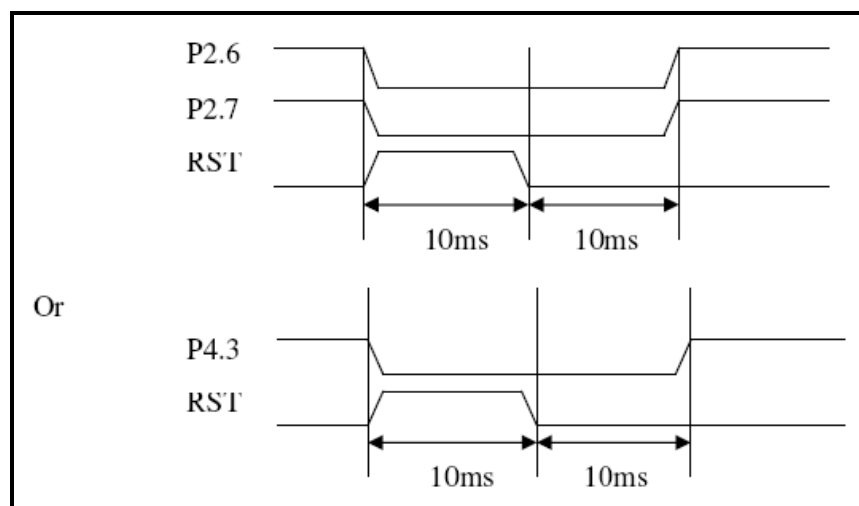

Fig 9-1 : ISP entering by hardware setting
- (1) Blank first data : If the first Flash data is blank (data in address 0000h is FFh), the controller will read it after power on and after identifying it as blank, the program counter will go to the ISP code area.
- (2) Execute the “LJMP” instruction in the program as IAP function.
- (3) By hardware setting: After power on reset, if the hardware finds both Port2[6] and Port2[7] are tied low, or Port4[3] is low, then the program counter will go to the ISP code area. This is shown in Fig. 9-1.